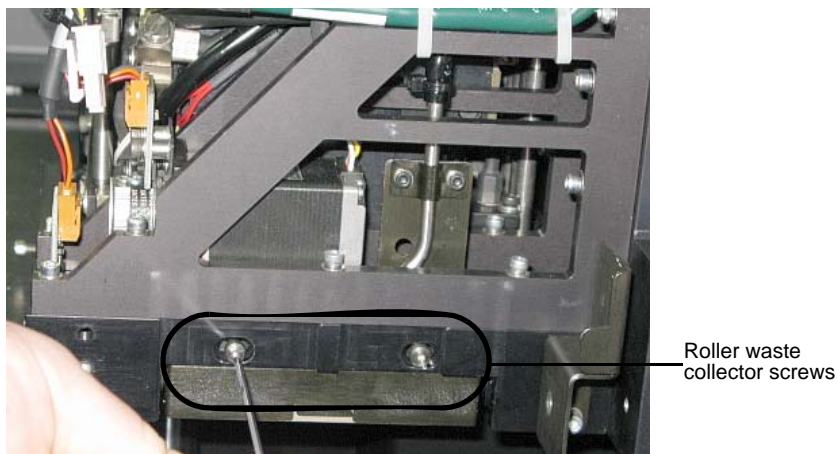

Figure 6-34: Removing the roller waste collector covering
1. Return the roller waste collector to the print block and screw on the covering (see figure 6-34 on page 30).